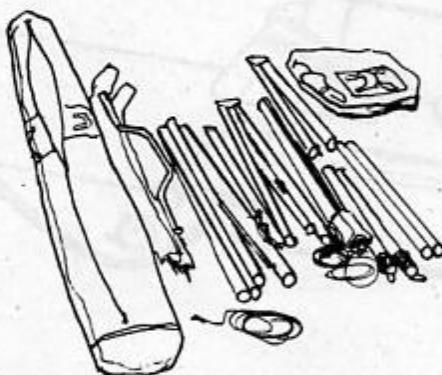

Fig. 3.1.5.
4. Place completing parts of the frame with comfort. Undo the zipper on the bag (Fig. 3.1.5).